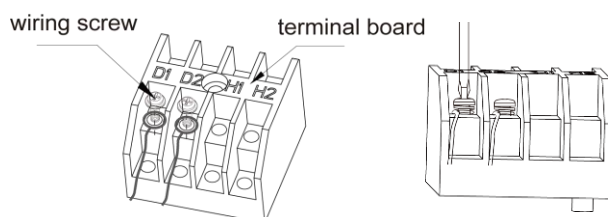

Fig. 5.3.1
- (1) Detach the electric box lid.
- (2) Let the Communication cable pass through the wiring through-holes.
- (3) Connect the communication wire to terminal D1 and D2 of indoor 4-bit wiring board, as shown in fig.5.3.1.